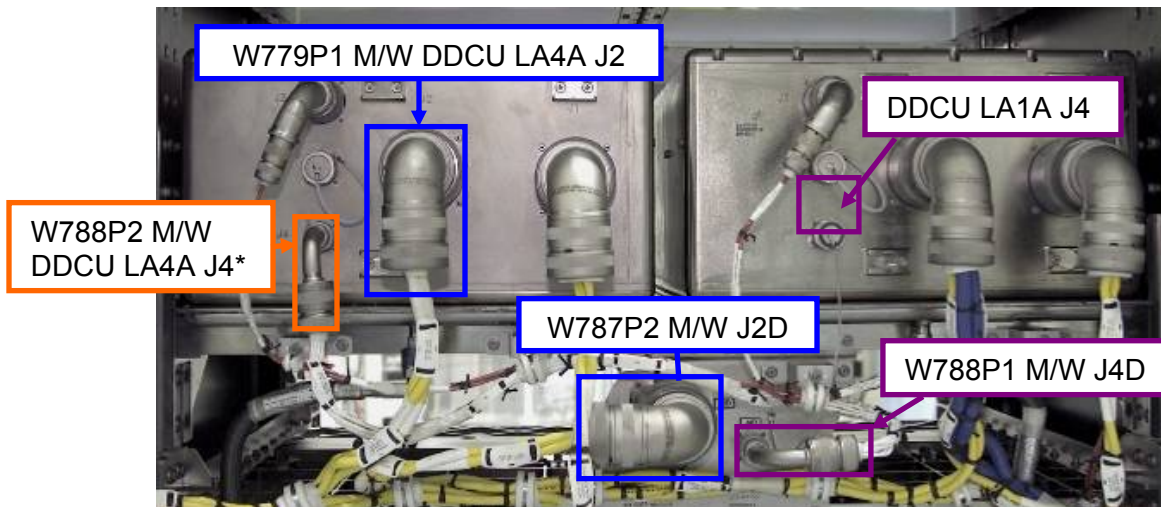

Figure 1.- DDCU-1 Rack (LAB1P3) Rear View.
3.1 Don Static Wrist Tether. Refer to Figure 1.
Refer to Figure 1.
Refer to Figures 1 and 2.